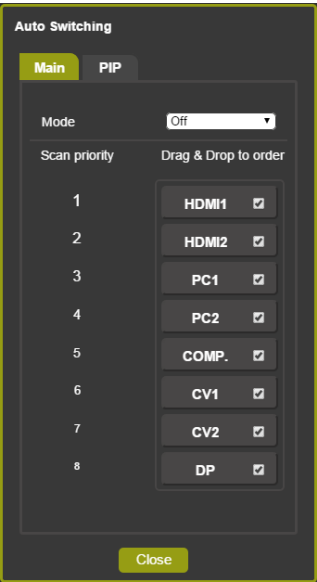

Figure 45: The Routing & Scaling Page – Auto Switching Window (Main Tab)
Click the Auto Switching button to open the Auto Switching window (see Figure 45). The Auto Switching window lets you set the Main and PiP scanning mode separately to:
When Scan mode is activated, the system scans the inputs from the highest to the lowest priority in search of a valid input signal for each the Main and PiP windows. The priority is ordered from the lowest input number (8) to the highest (1). For example, if PC 1 and HDMI 2 have a valid signal and auto switching is enabled, the **VP-770** will scan through the inputs and select the HDMI 2 which is higher in the priority list (see Figure 45). Once the signal is no longer valid on HDMI 2, the **VP-770** will scan for the next highest-priority valid signal.